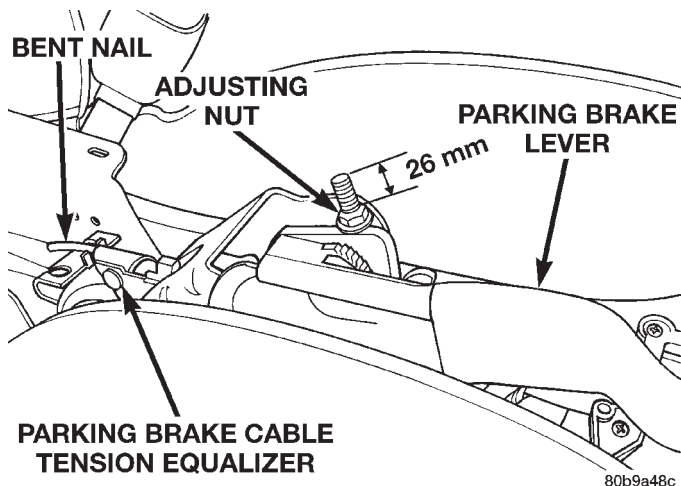

Fig. 205 Parking Brake Adjustment (Rear Disc Brakes)
- On vehicles with **REAR DISC BRAKES**, tighten the adjusting nut on the parking brake lever output cable until 26 mm millimeters of thread is out past top edge of adjustment nut (Fig. 205).